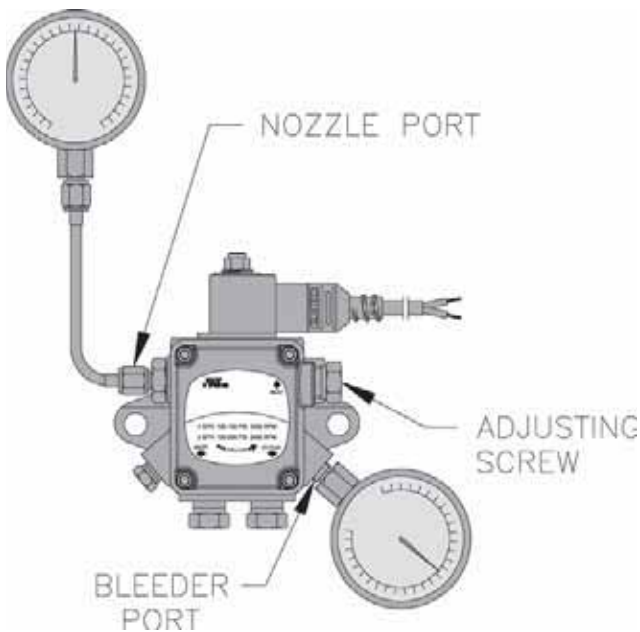

Figure 40: Adjusting Fuel Pump Pressure
- a. When checking a fuel unit's operating pressure, a reliable pressure gauge may be installed in either the bleeder port or the nozzle port. See Figure 40.